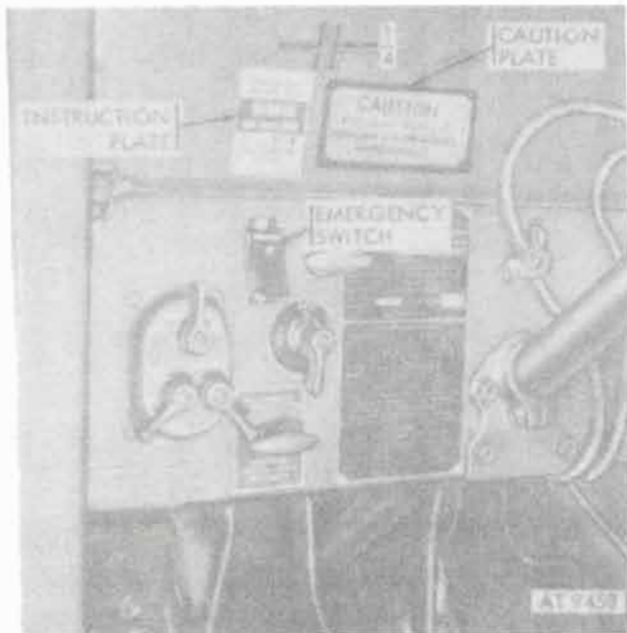

Figure 18-18. Emergency switch installation.
a. Installation of Emergency Switch, Instruction Plate, and Caution Plate (fig. 18-18).
(1) Locate switch at 11 / 16-inch hole, to left of the ignition switch, from the engine side of the dash panel.
(2) Locate guard assembly over switch toggle and on face of dash panel. Attach guard assembly with two screws and lockwashers.
(3) Locate instruction plate at 5 / 64-inch holes in windshield assembly and attach with four screws.
(4) Locate caution plate (fig. 18-18) at right of instruction plate and install. See figure 18-18.